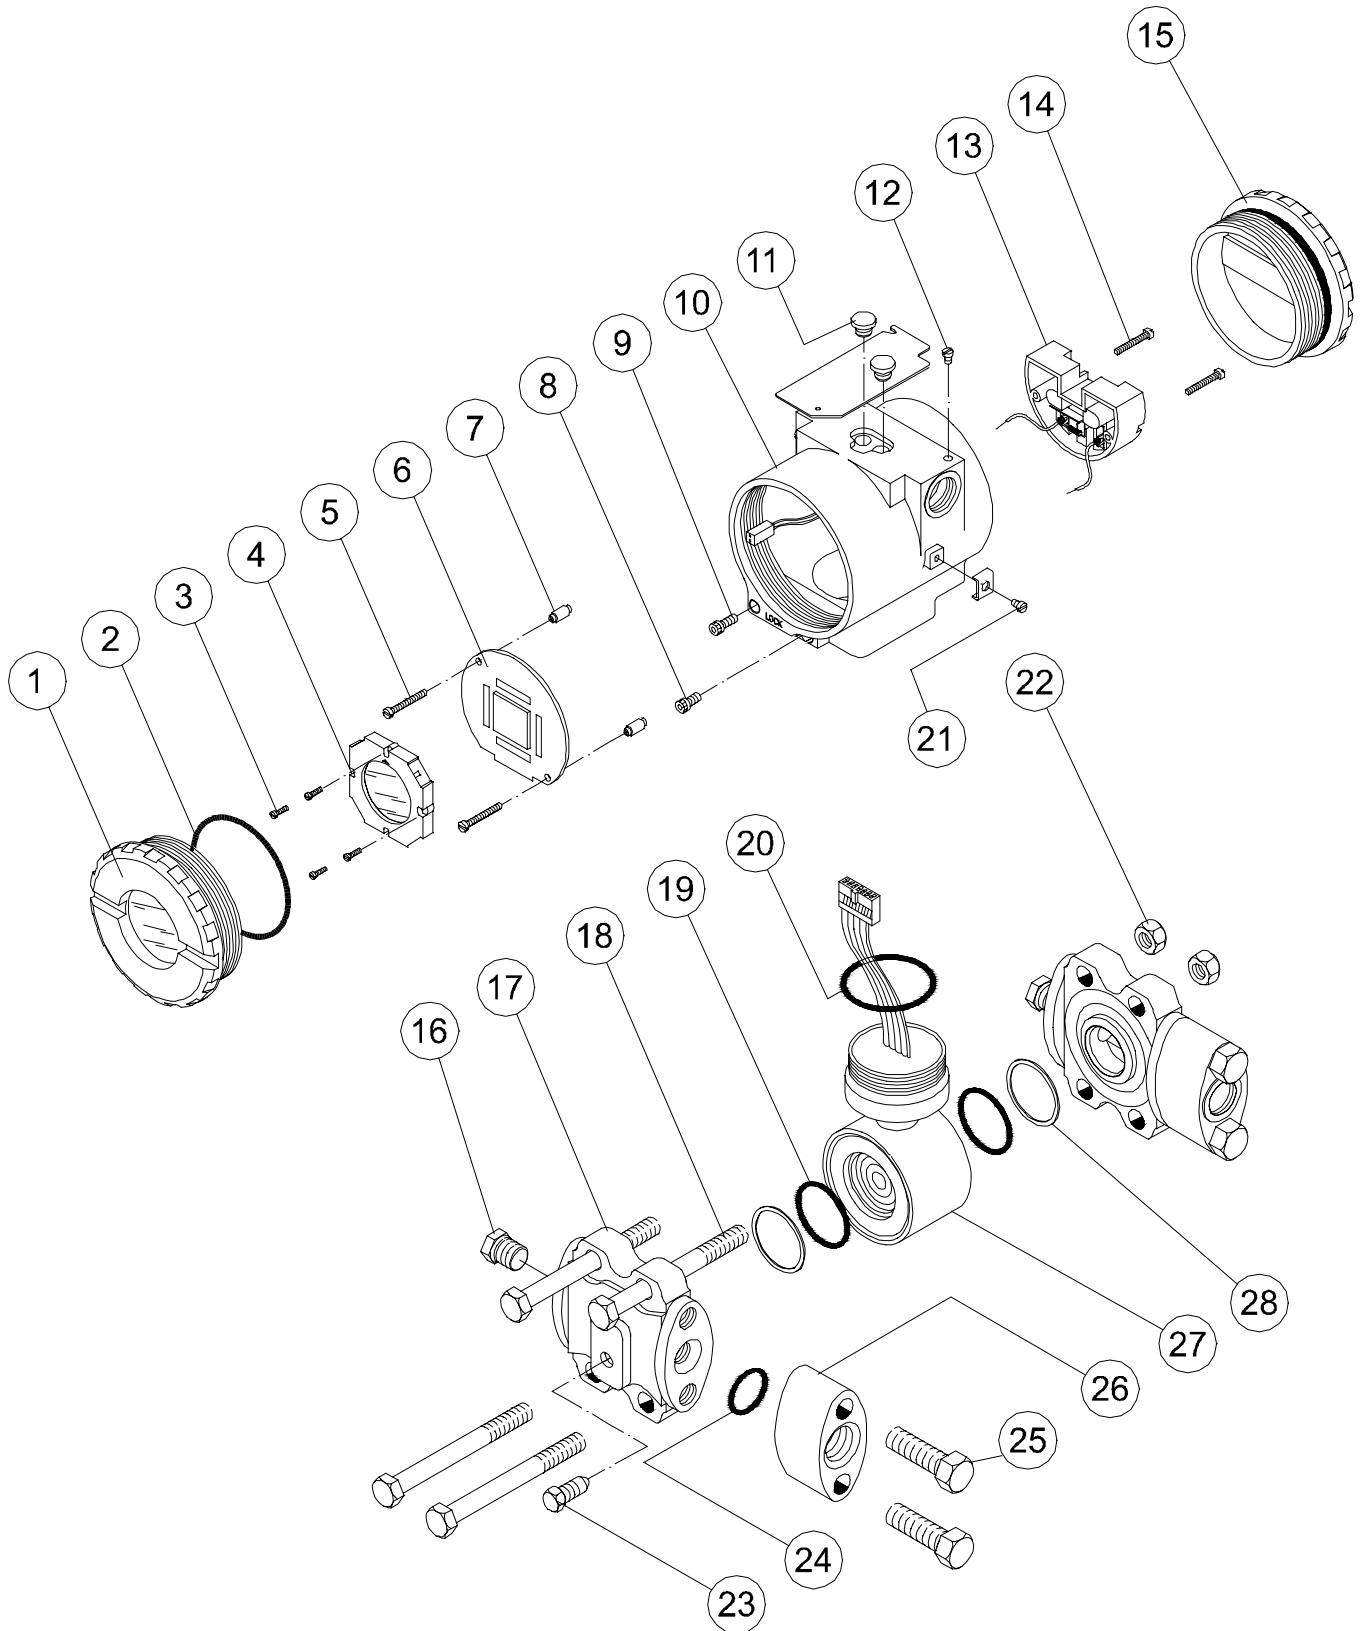

Fig. 5.1 – Exploded View
Figure 5.1 shows transmitter's exploded view and will help you to visualize the following:
Pass the screws (5) through the main board holes (6) and the spacers (7) as shown on Figure 5.1 and tighten them to the body.